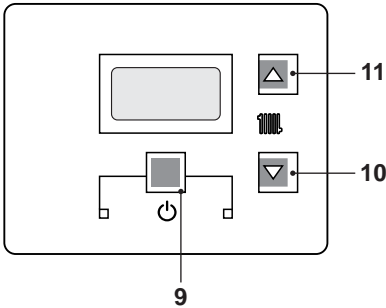
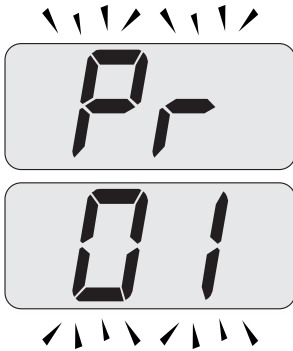
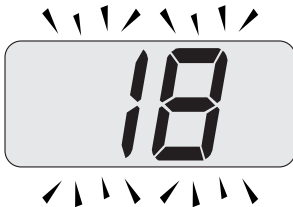

Fig. 7.47
Fig. 7.48
Fig. 7.49
- Enter the "programming mode" by pressing keys 9- 10- 11 (Fig. 7.47) for 10 seconds at the same time until the letters **Pr** that alternate with code **01** are displayed on the LCD display, indicating that "parameter 01" (Fig. 7.48) has been activated.
- Press keys 9- 10- 11 (Fig. 7.47) at the same time for 10 seconds to exit the "programming mode".
- Press keys 9 and 11 (Fig. 7.47) at the same time until the value of parameter 18 (18=Activ A 120V or 19=Activ A 150V or 20=Activ A 200V or 21=Activ A 250V) is displayed on the LCD display (Fig. 7.49).
- Press keys 9 and 10 (Fig. 7.47) at the same time to exit without changing the value (return to the parameters list Fig. 7.48)